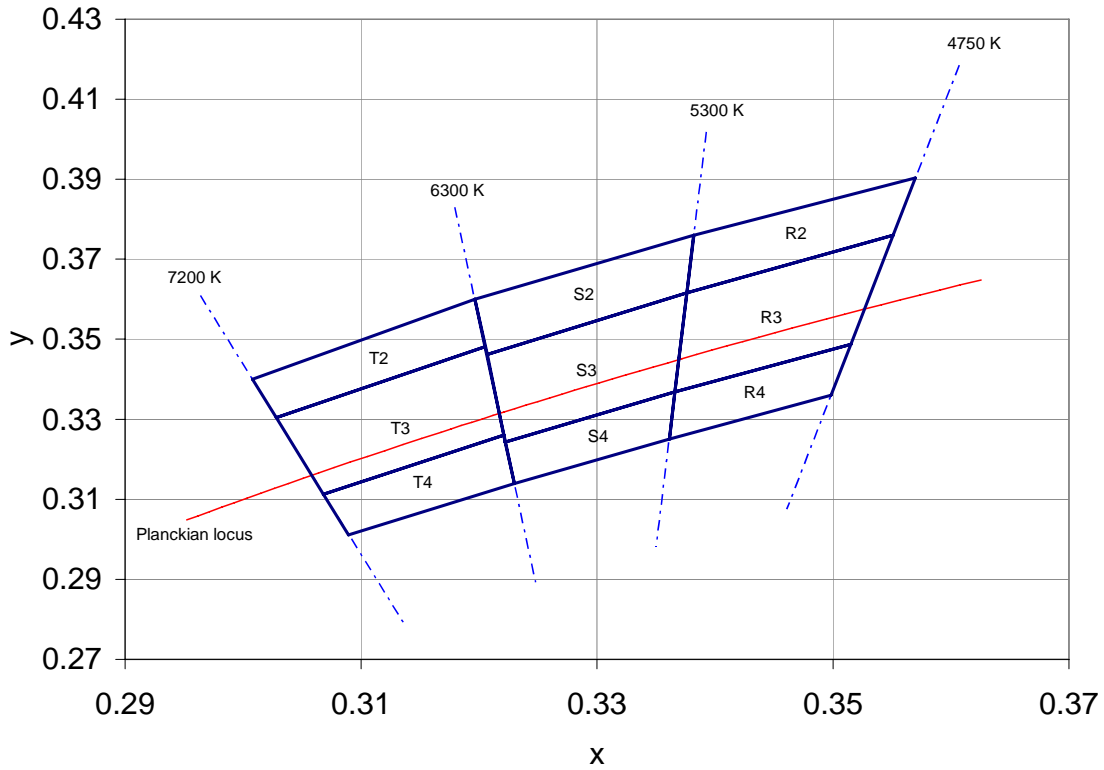

Figure 1: Standard Chromaticity Groups plotted on excerpt from the CIE 1931 (2°) x-y Chromaticity Diagram. Coordinates are listed below in Table 3.
- J and K – designate the CCT bin groups (see Figure 1 and Table 3)